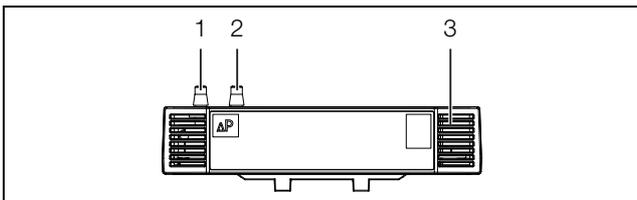

Fig. 10: Front of the differential pressure sensor
- Connect the air hose for the reference measurement to the appropriate connection (fig. 10, item 2).
- Connect the air hose for the comparison measurement to the appropriate connection (fig. 10, item 1).